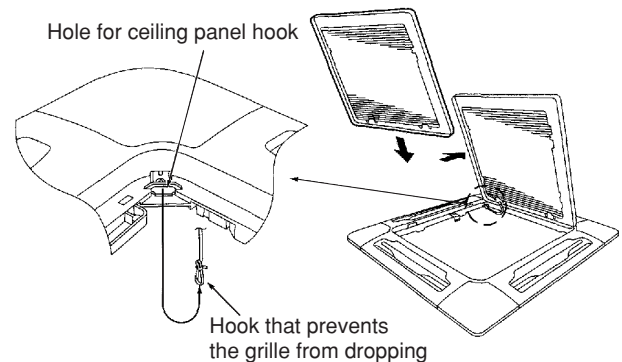

Fig. 9-22
- (1) Check that the safety cord from the corner cover is fastened to the ceiling panel pin, as shown in the figure. (Fig. 9-22)
- (2) Use the supplied screws to attach the corner cover to the ceiling panel.